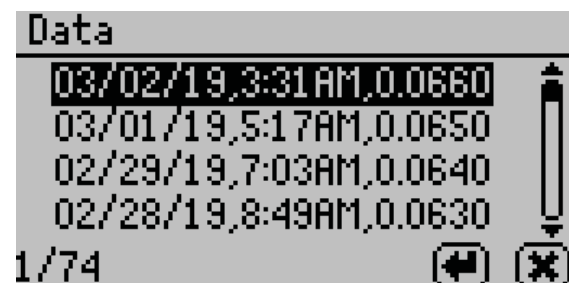

Figure 43 View data summary
- **View.** Select to view stored measurements with the most recent measurements at the top of the table (Figure 43). Use **UP** and **DOWN** to move through the stored data. Use **LEFT** and **RIGHT** to page quickly through the data.